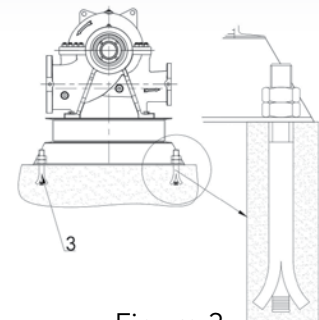

Figure 3
10. Tighten the foundation bolts evenly and firmly. Fig . 3